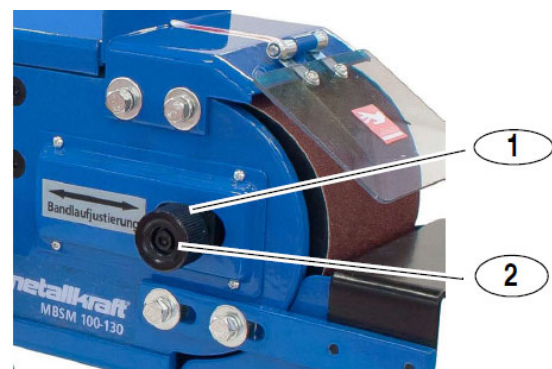

Fig. 5: Sanding belt run adjustment
The run of the sanding belt can be changed using the sanding belt adjustment screw (Item 1, Figure 5). Check the run of the sanding belt by gently moving it by hand. To change the running direction of the sanding belt loosen the hexagon head screw (item 2, Fig. 5) within the adjusting screw (item 1). Then you can change the tape running direction of the sanding belt by turning the adjustment screw (item 1, Fig. 5) in a clockwise or counterclockwise direction. Then move the sanding belt by hand again and check the correct run. If necessary, change the run again.
Tighten the hexagon screw (item 2, Fig. 5) again.